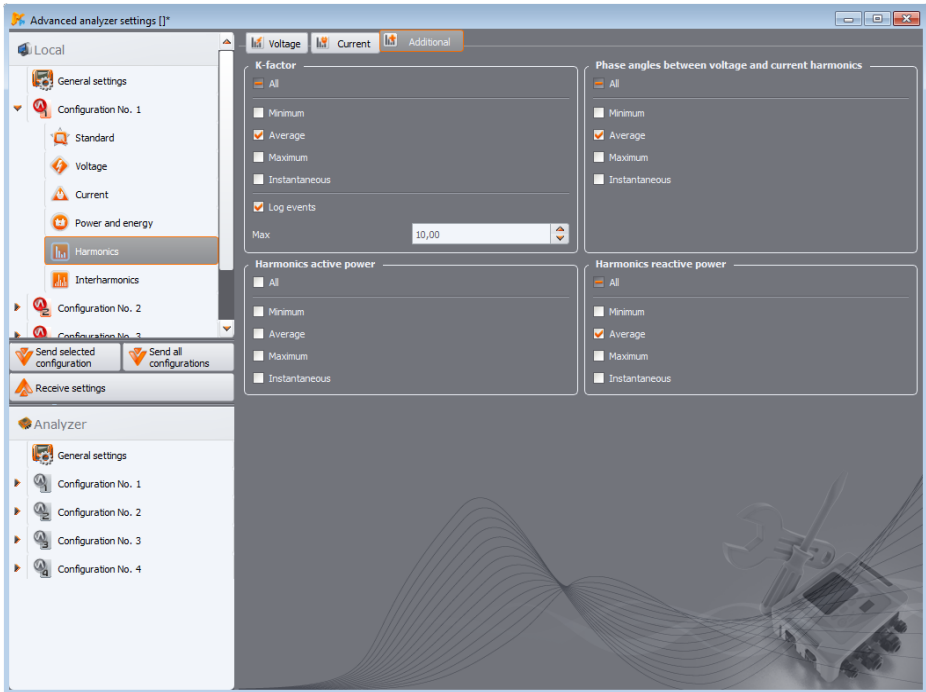

Fig. 31. Additional settings of harmonics.
**ADDITIONAL** tab (Fig. 31) includes the following parameters: